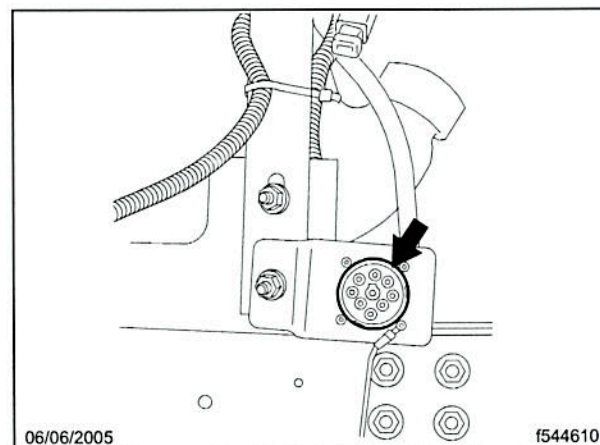

Fig. 1, Diagnostic Connector (location will vary)
3. Connect the laptop being used to a power adapter, then connect the laptop connector to the diagnostic connector. See Fig. 1.